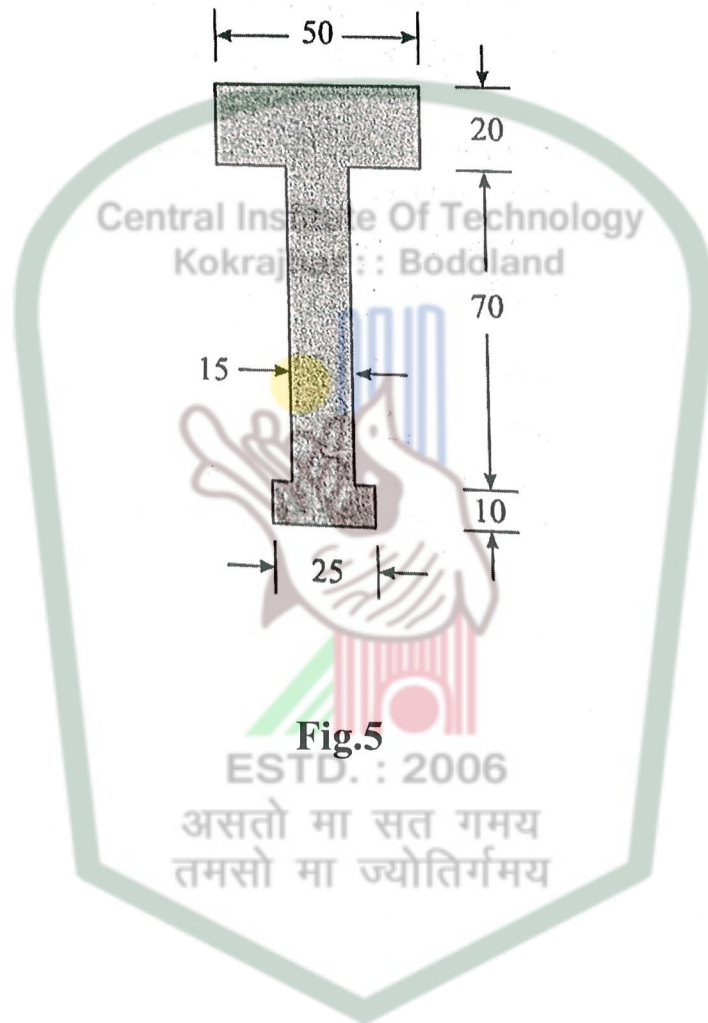

Fig.5
- 6 The cross-section of a beam is shown in fig.5. The beam is made of material with permissible stress in compression and tension equal to 100 MPa and 140 MPa respectively. Calculate the moment of resistance of the cross section, when subjected to a moment causing compression at the top and tension at the bottom.